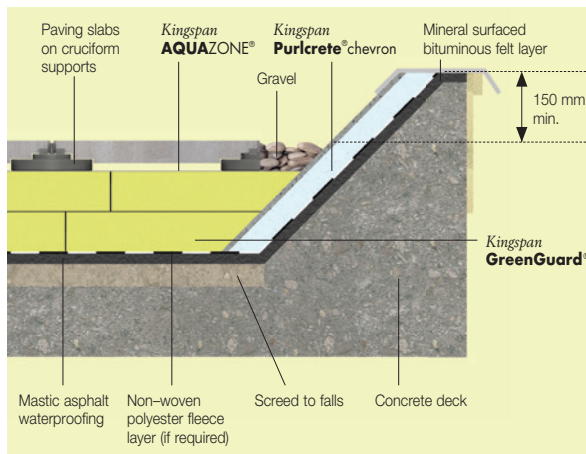

Figure 6 – Eave / Kerb Detail
- For best thermal performance, roof-lights and ventilator kerbs should be insulated with the same thickness of **Kingspan Purlcrete**[®]chevron, with a separate backing layer of **Kingspan GreenGuard**[®], as the general roof area (see Figure 6).
The use of *Kingspan AQUAZONE®* over the insulation (see Figures 6–11), can dramatically minimise heat loss by reducing the amount of rainwater that flows between and beneath the insulation boards.